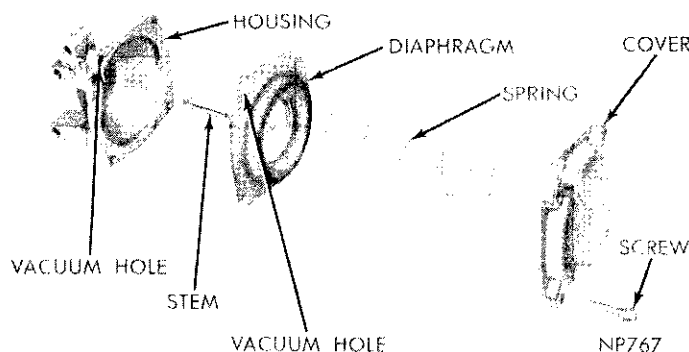

Fig. 15—Secondary Throttle Diaphragm (Exploded View)
(1) Slide diaphragm into housing (Fig. 15).
(2) Position diaphragm so that the vacuum hole in housing is aligned with vacuum hole in diaphragm.
(3) Install diaphragm return spring with coiled end snapped over button in cover.
(4) Support diaphragm stem in order to keep diaphragm flat as spring and cover are installed.
(5) Align vacuum port in cover with port in housing